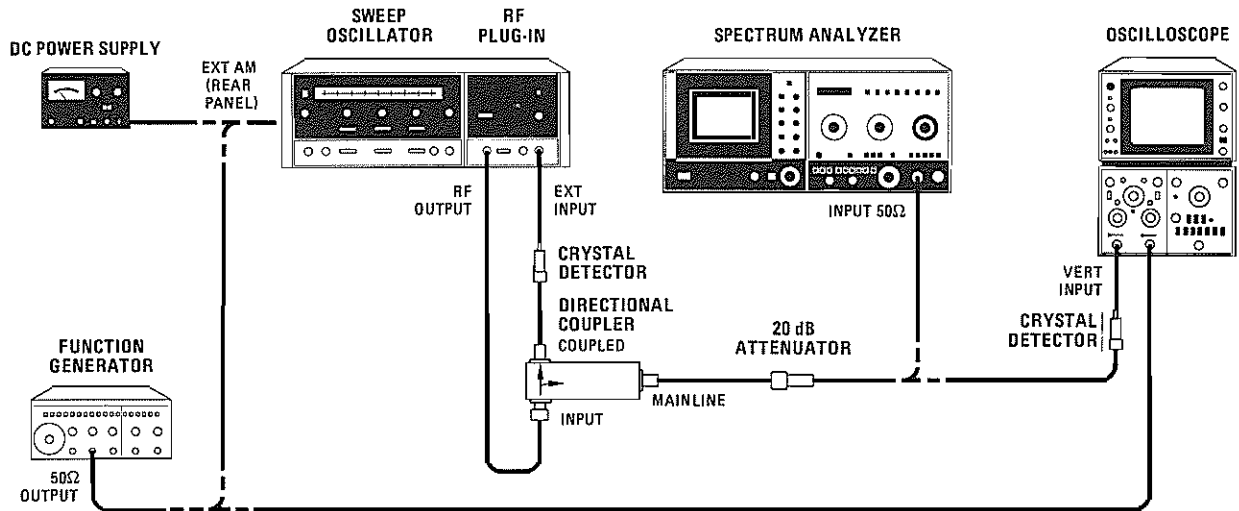

Figure 4-19. Amplitude Modulation Test Setup
- a. Connect equipment as shown in Figure 4-19 with spectrum analyzer connected to 20 dB attenuator and power supply connected to rear panel EXT AM connector.
- i. Connect function generator to 8620C EXT AM input and CH B input of oscilloscope as shown in Figure 4-19. Set function generator for 27.8 kHz and adjust for 6V peak-to-peak output as shown on CH B of oscilloscope. Connect VERTICAL OUTPUT from spectrum analyzer (rear panel) to CH A input of oscilloscope.
- l. Disconnect spectrum analyzer from RF Plug-in. Connect oscilloscope and crystal detector to 20 dB attenuator as shown in Figure 4-19.
- o. Connect spectrum analyzer as shown in Figure 4-19 and set controls same as in step h except set SWEEP TIME/DIV to .2 mSEC. Adjust 8565A TUNING control for maximum signal amplitude on spectrum analyzer display. Set REF LEVEL controls to place signal at top graticule line.